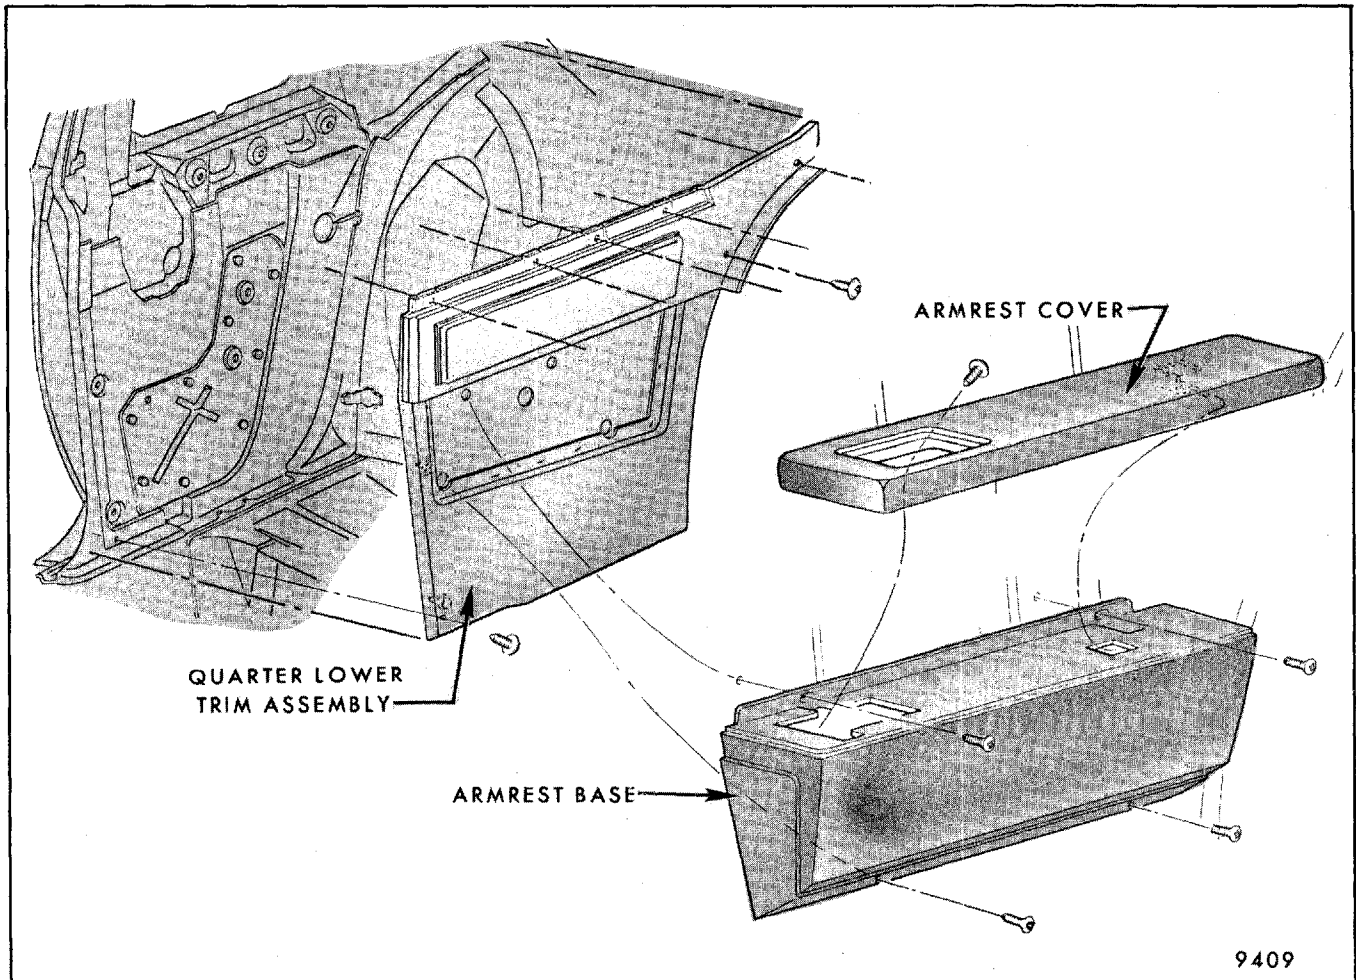
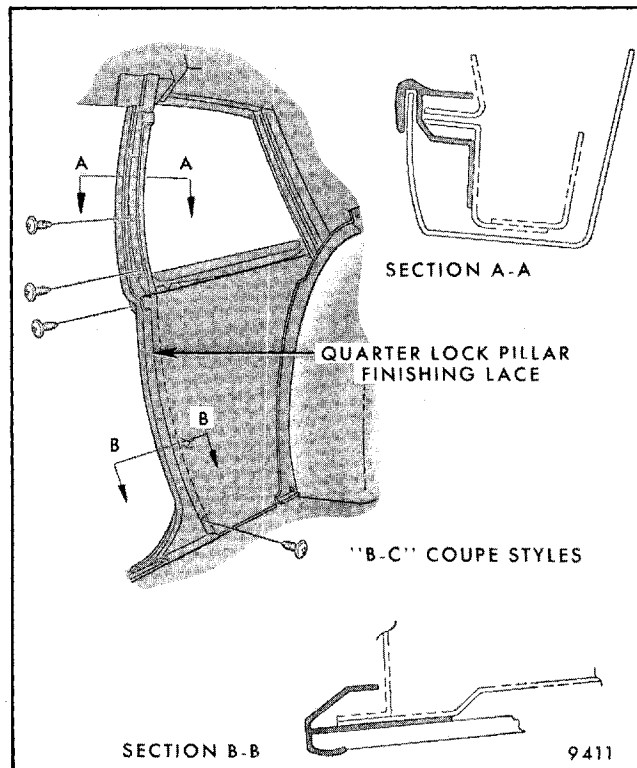

Fig. 6-2 - Quarter Armrest Attachment - B Styles (less 4BZ37)
Fig. 6-10 - Body Lock Pillar Finishing Lace - B,C Styles
1. On B styles (less 4BZ37), remove screw under armrest ash tray securing pad to armrest to gain access to two upper attaching screws (Fig. 6-2).
3. On B,C styles, remove quarter upper trim panel to gain access to concealed beltline quarter trim attaching screws (Fig. 6-2), then remove quarter finishing lace (Fig. 6-10).
5. On B,C styles, carefully disengage trim retainers from quarter inner panel using tool BT-7323 or equivalent. Detach quarter trim by lifting assembly off beltline (Figs. 6-2 and 6-3), then remove.
4. Remove finishing lace attaching screws (Fig. 6-10), pull lace forward and remove.